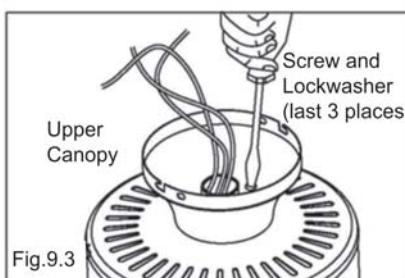

Fig.9.3
3. Place the ceiling canopy over the collar on the top of the motor housing. Align the mounting holes with the holes in the motor and fasten, using the three screws and lock washers which were removed in Step 2 (Fig. 9.3)